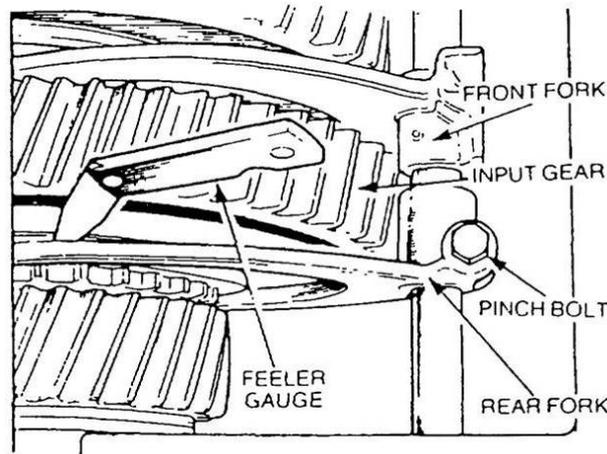

Figure 80 Adjustment of the Transfer Selectors
- o.** Select neutral on the transfer lever and check that the input gear on the intermediate gear assembly is in the neutral position and the front fork is in contact with the input gear inner member. Adjust the rear fork position on the selector shaft to allow a clearance of 0.12 to 0.25 mm (0.005 to 0.010 in) between the front face of the rear fork and the rear face of the input gear inner member (Figure 80). Tighten the pinch-bolt securely.